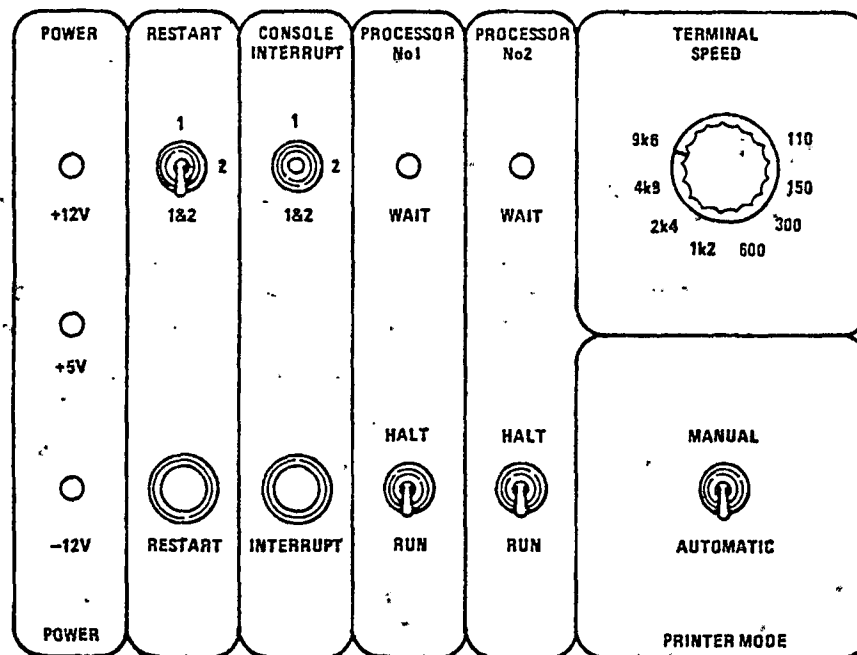

Figure 1.4 QASAR FRONT PANEL CONTROLS
(Refer to Figure 1.4)
- c) Set all front-panel controls as described in Section 1.7 (above). Refer to Figure 1.4.